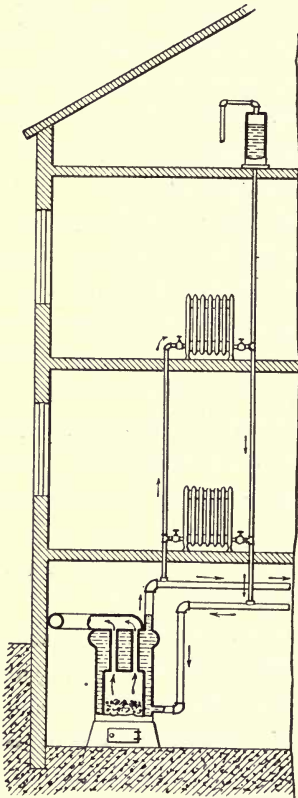

FIG. 175.—Hot-Water Heating System.
**390. Hot-Water Heating.**—A hot-water heating system (Fig. 175) operates by the movement of hot water from the